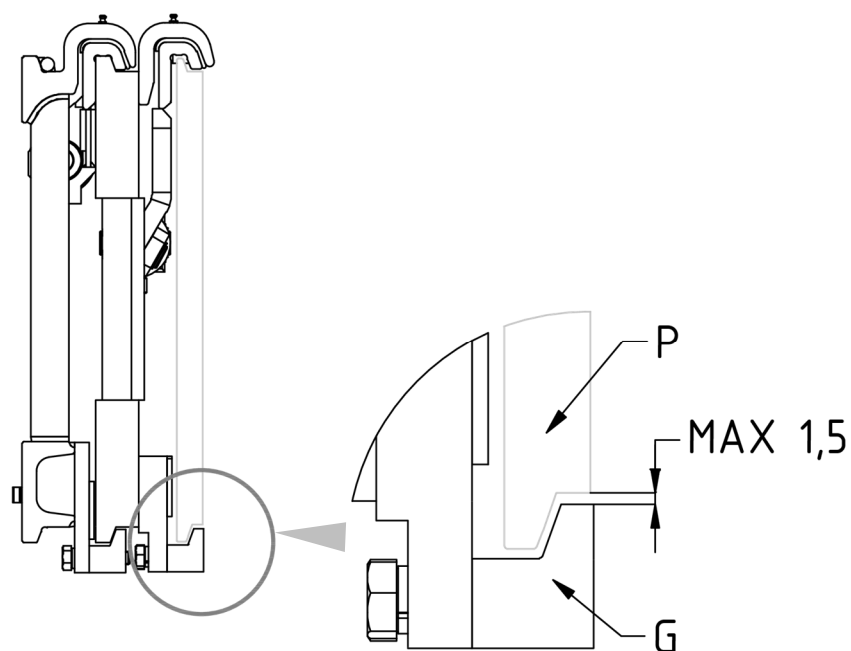
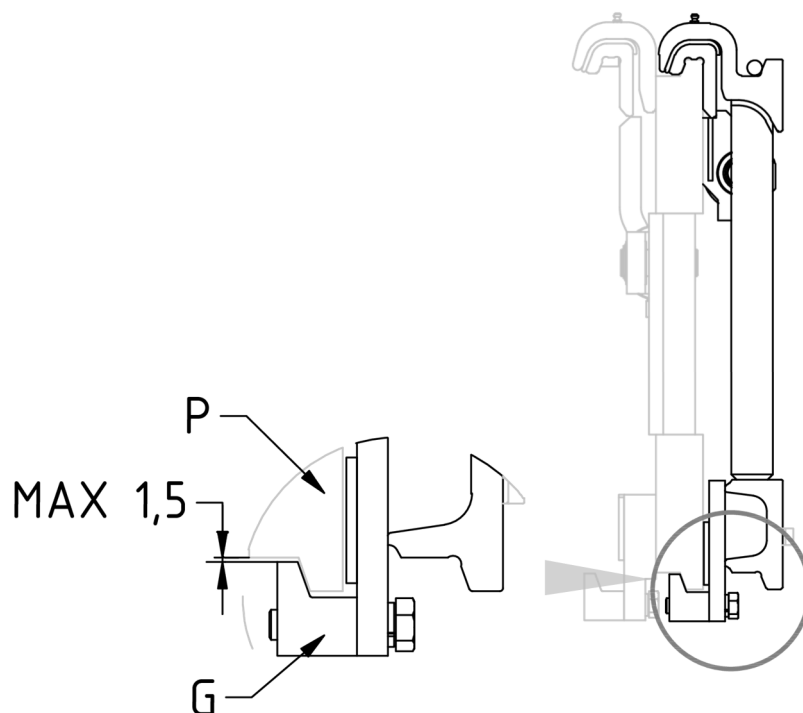

Figure 6
Figure 10
9. Tighten the 2 lower couplings **G** so that the body of the couplings remains coupled to the lower fork carriage plate **P** (with max. 1.5mm clearance, see detail *Figure 6*), tightening with the torque indicated in *Table 3*.
6. Tighten the 2 lower couplings **G** so that the body of the couplings remains coupled to the lower fork profile (**P**) of the rear structure (with max. 1.5mm clearance, see detail *Figure 6*), tightening with the torque indicated in *Table 3*.
4. Check the clearance between the lower part of the fork carriage plate and the lower equipment couplings, checking that it is as shown in *Figure 6* (page 12) and *Figure 10* (page 15), and, if necessary, tighten the screws that support them.